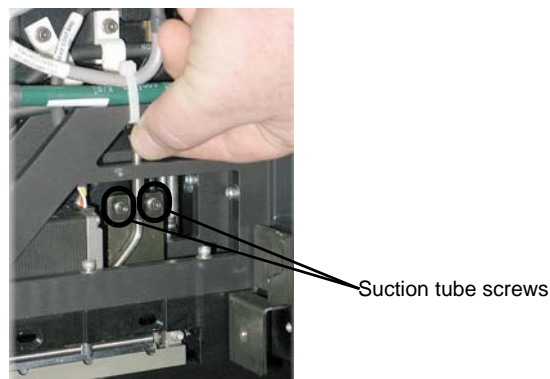

Figure 6-27: Lifting the suction tube
- Return the roller waste collector to the print block and screw on the covering (see figure 6-27 on page 6-26).